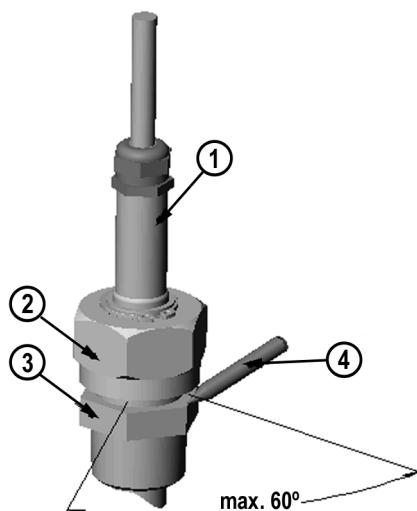

Figure 15 Tightening the Clasp Nut
The following numbers refer to Figure 15 on page 34:
10. Tighten the clasp nut with a fork spanner a further 50 ... 60° (ca. 1/6 turn). If you have a suitable torque spanner, tighten the nut to max 45 ± 5 Nm (33 ± 4 ft-lbs). Refer to Figure 15 on page 34.